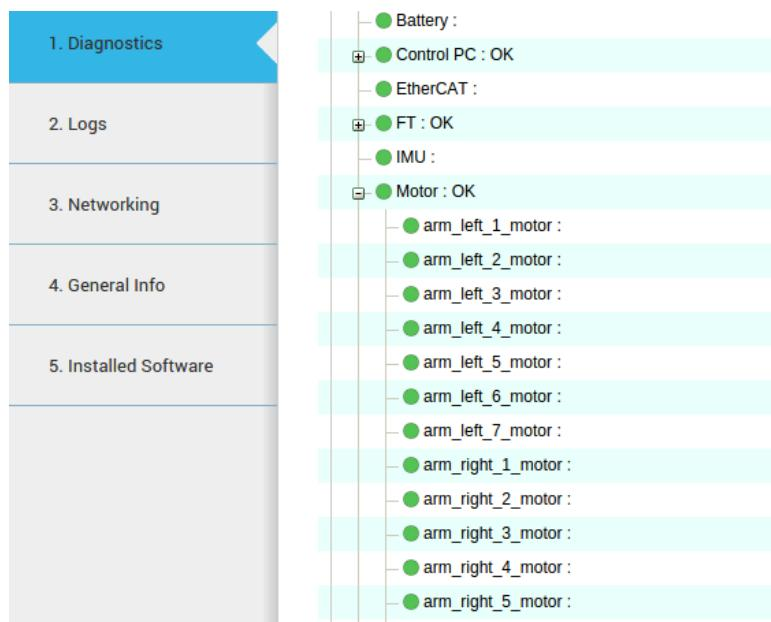

Figure 30: WebCommander motors status
6. Verify that the motors and sensors are running using the WebCommander on page 81. The figure 30 shows the motors' status. If any of the motors do not display a green light, repeat the process by rebooting the robot. If the problem persists, contact PAL Robotics.